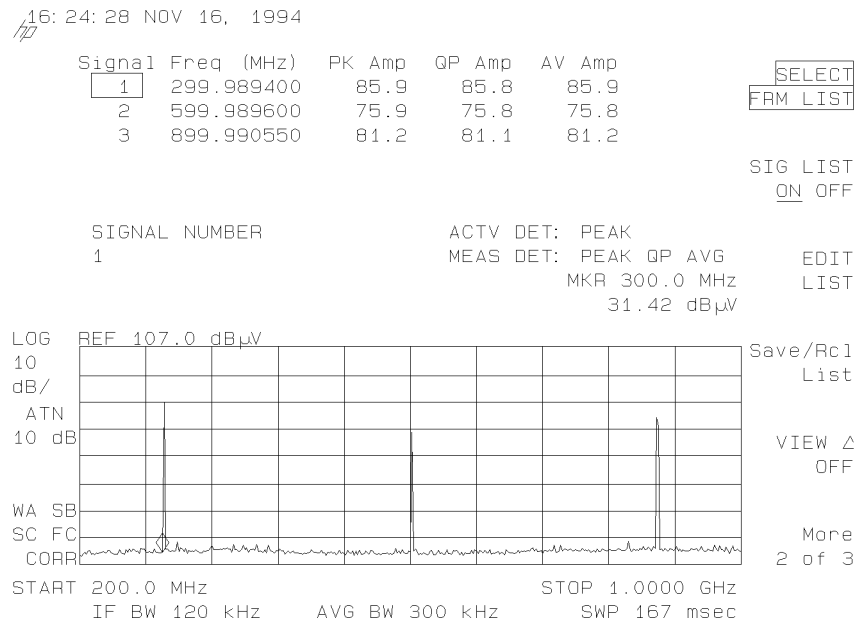

Figure 1-4. Displaying a List on the Screen
9. To display the list on the screen, press **More 1 of 3**, then the **SIG LIST ON OFF** softkey. The measure-at-marker results in the form of a list are displayed on the upper portion of the screen. Refer to Figure 1-4.